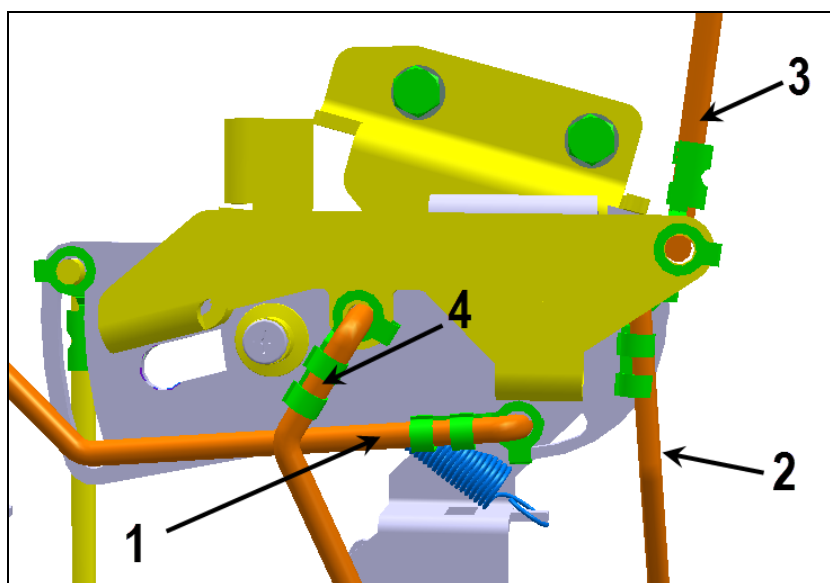

Fig.13
13. Reconnect the four remaining rods to the mechanism in the order shown below (Fig.13).